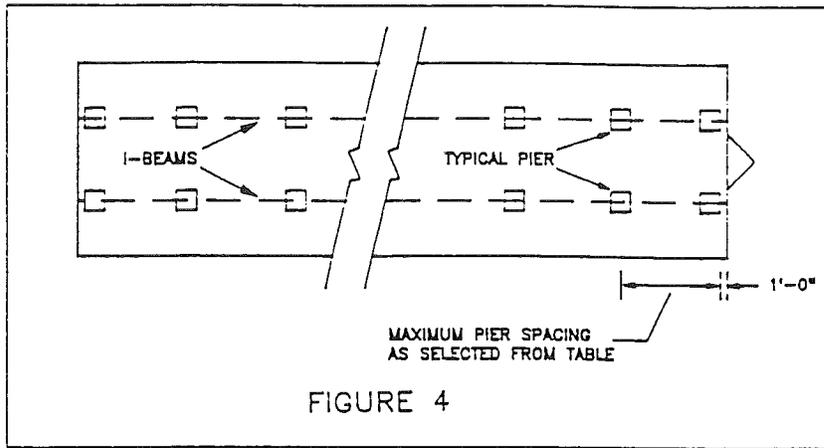

FIGURE 4
Figure 4 and Figure 5 show the recommended arrangement of piers. Concrete blocks shall have nominal dimensions of at least 8" X 8" X 16". They must be stacked with their hollow cells aligned vertically. When piers are constructed of blocks stacked side by side, every layer shall be at right angles to the previous one. Cap hollow block piers to distribute the structural load evenly across them. Caps shall be of solid masonry or hard wood at least 2" thick or of steel and the same length and width of piers they rest upon. Avoid soft woods and plywood as they may lead to unwanted settling or movement. See Figure 3.
- A. Before doing any jacking, place support piers for the home in their approximate location as selected from Table 1 for 14' and 28' wide homes, and Table 2 for 16' wide homes. See Figure 4 and Figure 5 for typical layouts.